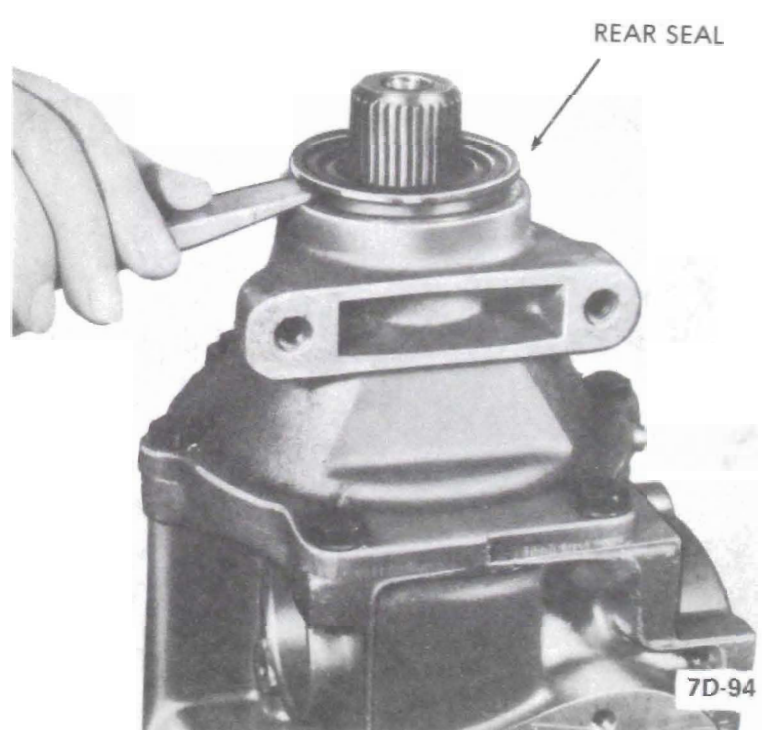

Figure 7D-94
1. If necessary to replace, pry the rear oil seal from the extension housing. See Figure 7D-94.